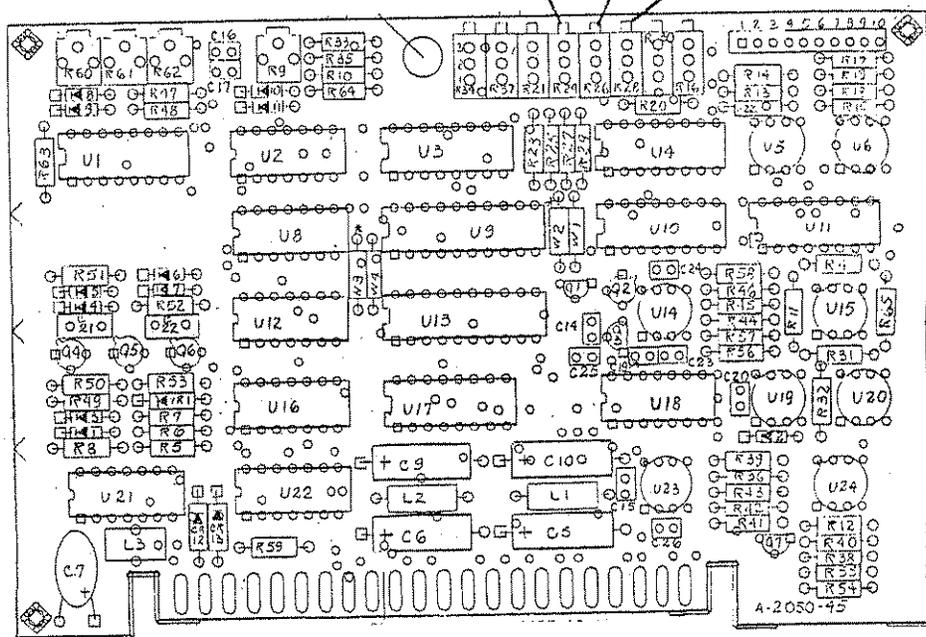

Figure 5-27. Band Overlap Adjustments Location
7. Adjust A6R28 (B1) to bring the right side pip over to the switch point so that the right half of this pip mates with the left half of the other as shown in Figure 5-28. Refer to Figure 5-27 for the adjustment location. The pip should be undisturbed as it moves through the bandswitch point.